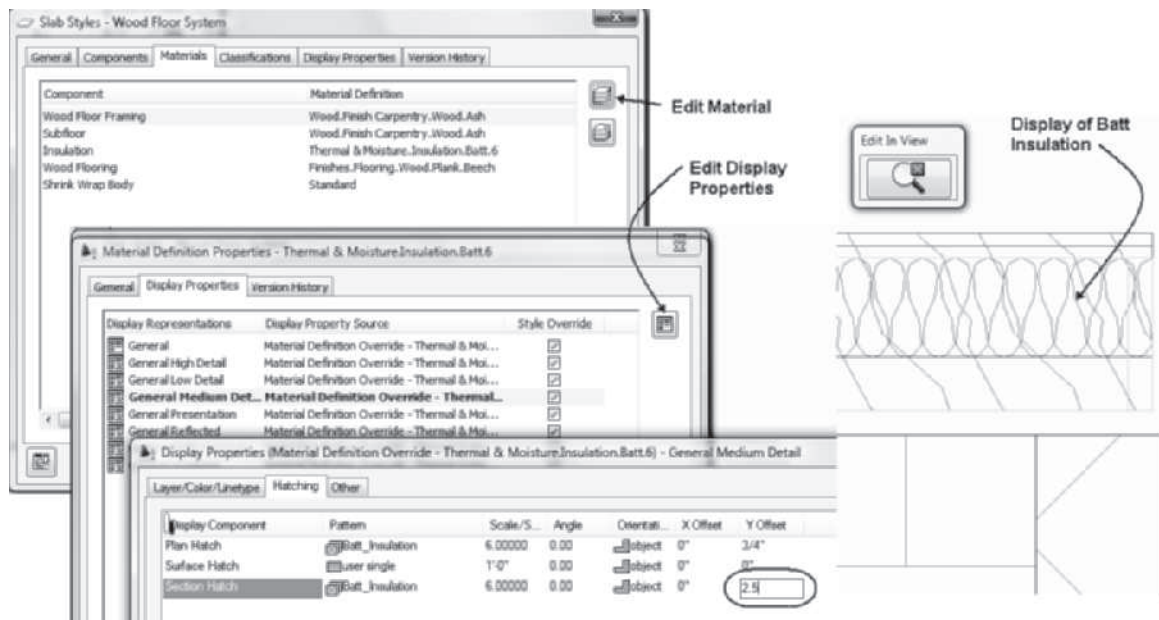

FIGURE 8.30 Display settings for insulation material
14. In this step you will modify the display properties of the Thermal&Moisture.Insulation.Batt.6 [Thermal & Moisture.Insulation.Batt.140] material definition to view the insulation in section. Select the slab and choose **Edit Style** to open **Slab Styles-Wood Floor System** dialog box. Choose the **Materials** tab. Choose the **Insulation** component. Click the **Edit Material** button at the right. Choose the **Display Properties** tab and verify that the **General Medium Detail** display representation is selected. Click the **Edit Display Properties** button at the right to open the **Display Properties (Material Definition Override-Thermal&Moisture.Insulation.Batt.6 [Thermal&Moisture.Insulation.Batt.140])-General Medium Detail** dialog box. Choose the **Layer/Color/Linetype** tab and turn on the visibility of the **Section Hatch**. To center the insulation hatch pattern in the joist cavity, choose the **Hatching** tab and edit the Y offset to **2.5 [64]** for the **Section Hatch** component. Click **OK** to dismiss all dialog boxes and view the insulation as shown at the right in Figure 8.30.